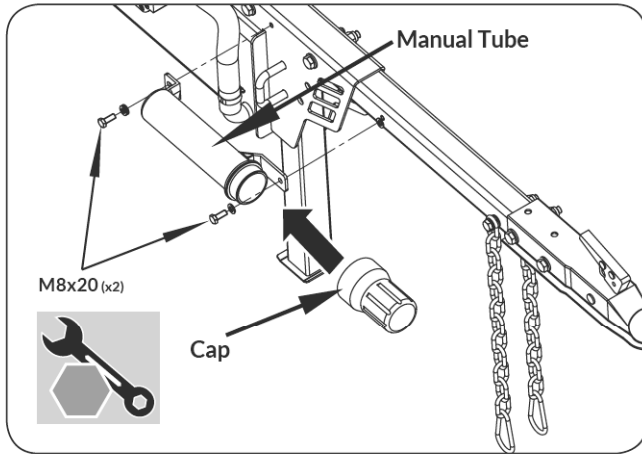

Figure 6
1. Remove the cap of the manual tube. Align the holes in the manual tube with the holes in the tow bar, insert and tighten bolts and washers. (See **Figure 6**)